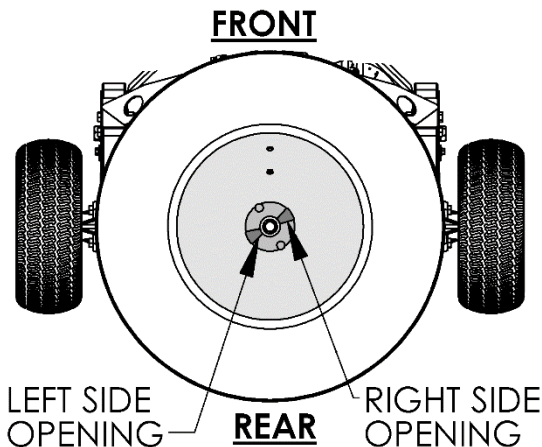

FIGURE 15.2
- **FIGURE** references used throughout reflect the page number as the first number (e.g. **FIGURE 20.1** is on page 20, **FIGURE 15.2** is on page 15, etc...).